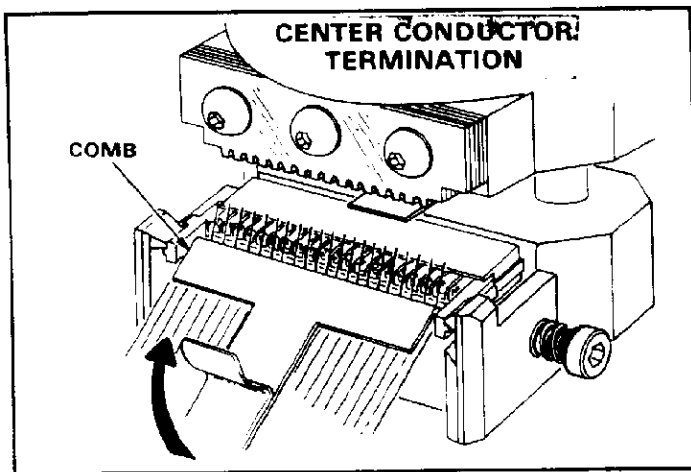

Fig. 6
2. Refer to Figure 6, and, holding cable, position comb against conductors.